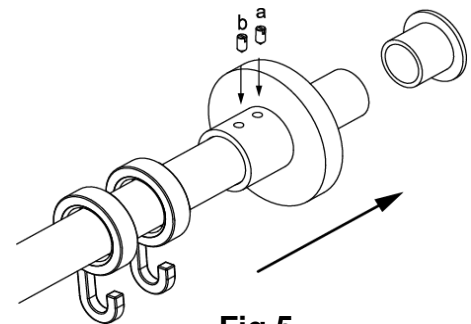

Fig.5
7. Position the hooks and wall bracket covers onto the rod making sure they are in the correct orientation. Locate the rod between the wall brackets and slide each wall bracket cover onto the wall brackets. Secure each wall bracket cover in position by tightening the grub screw closest to the wall (a). Once these are secured rotate the rod so that the pierced holes are at the top and then tighten the second grub screw (b) in each wall bracket cover (see Fig. 5).